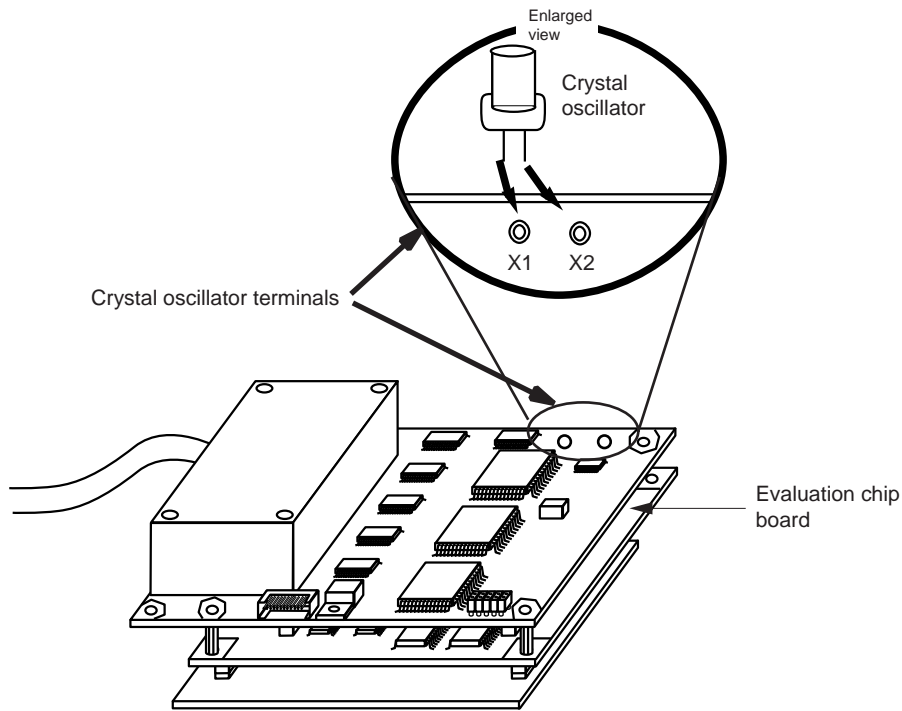

Figure 3.4 Installing the Crystal Oscillator
2. Attach the crystal oscillator into the terminals on the evaluation chip board (figure 3.4).